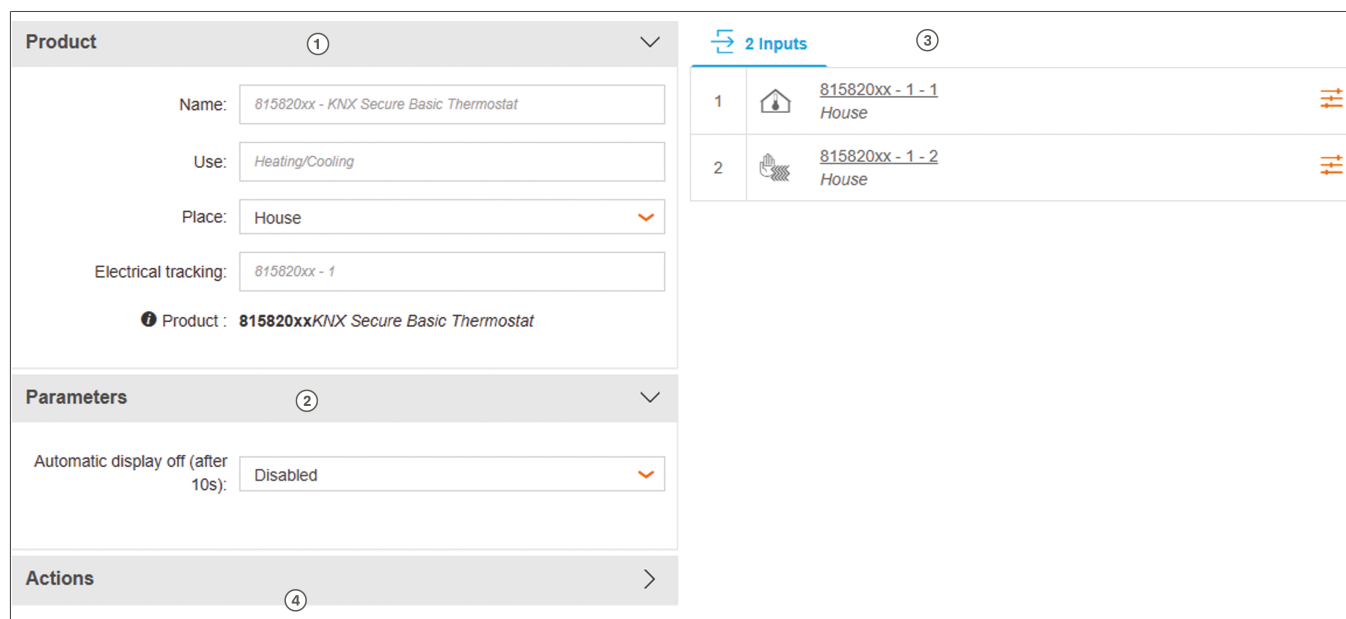

Fig. 4: Home page for KNX Secure basic thermostat
Device (Fig. 4, ①)
Parameters (Fig. 4, ②)
Inputs (Fig. 4, ③)
Actions (Fig. 4, ④)